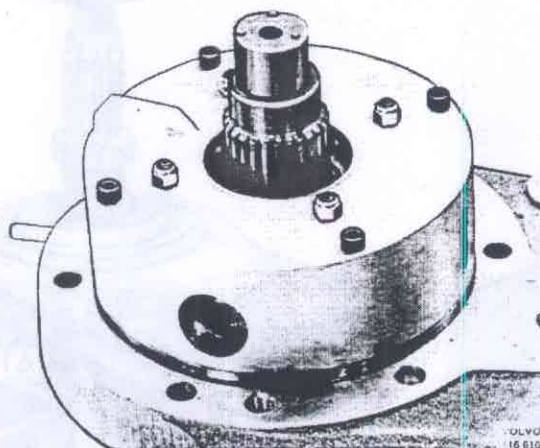

Fig. 48-16. Removing the bolts
3. Remove the retaining bolts (in hex 3 mm = 1/8") holding the control housing, see Fig. 48-16. Remove the housing.